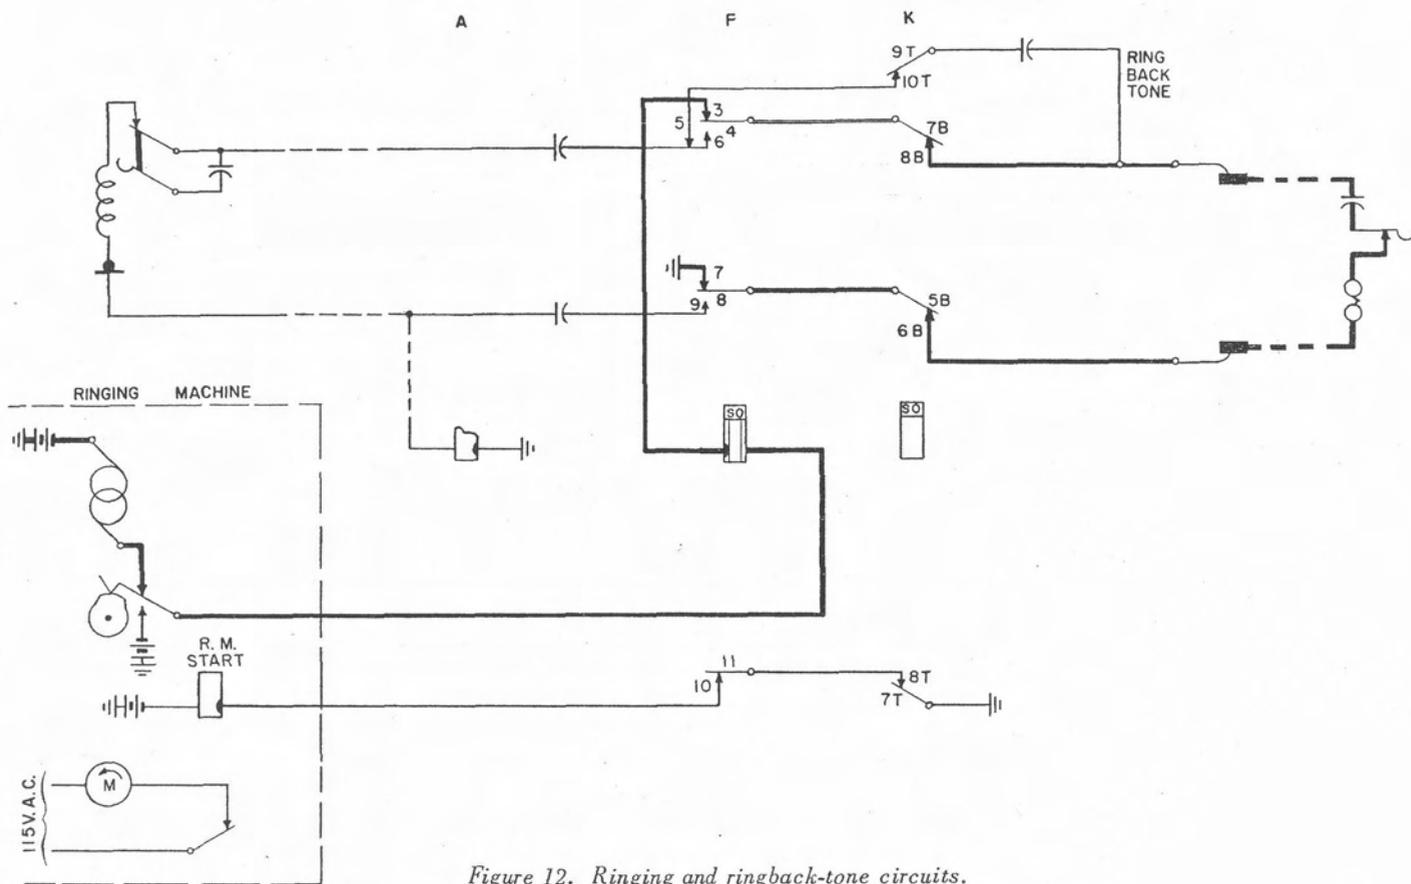

Figure 12. Ringing and ringback-tone circuits.
If this connector is in a small central office where the ringing machine does not run continuously, relay K (figure 12) contacts 7T-8T start the ringing machine.
Relay K contacts 5B-6B and 7B-8B set up the ringing circuit ... in figure 12 the heavy line.
About 1.2 seconds out of 6, the ringing-interrupter cam connects the ringing generator to the called line as shown by figure 12 heavy line, and rings the ringer (bell). The capacitor in series with the called-telephone ringer allows only alternating current to flow thru relay F. Relay F is slow to operate so that it will not be operated by alternating current.
In figure 12, at the ringing interrupter, the central-office battery voltage is offered out on the line, both during the ringing intervals (thru the generator and relay F), and during the silent intervals (thru relay F). In figure 12, with the called telephone on the hook, the ringer
19.2 Battery-connected generator is usual in urban areas, where most lines are in cable. In figures 12 and 21 the ringing generator is connected directly to the central-office battery.